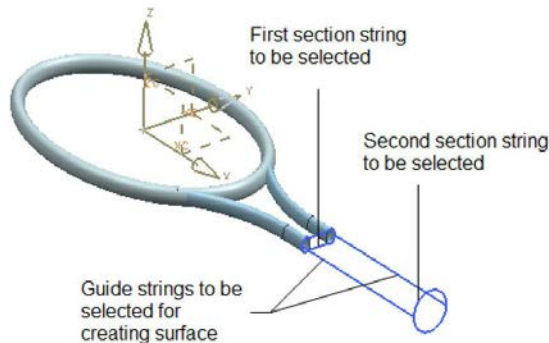

Figure 10-121 The second section curve and the guide strings to create a surface
8. Select all the elements from first section string, refer to Figure 10-121, and then press the middle mouse button; you are prompted to select the section again.
9. Select the second section string, refer to Figure 10-121, and then choose the **Curve** button from the **Guide (Cross) Curves** rollout; you are prompted to select the guide string.
10. Select the first guide curve, refer to Figure 10-121, and then press the middle mouse button; you are prompted to select the guide string again.
11. Select the second guide curve, refer to Figure 10-121. The preview of the